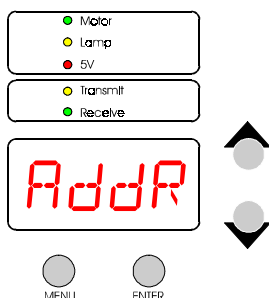

Figure 2-5. The controller's Addr(ess) menu allows you to set an fixture number from 1—8 so the controller will recognize the fixture.
1. Keep pressing the <Menu> button on the fixture until the display shows **ADDR** as shown in Figure 2-5 on page 2-12.